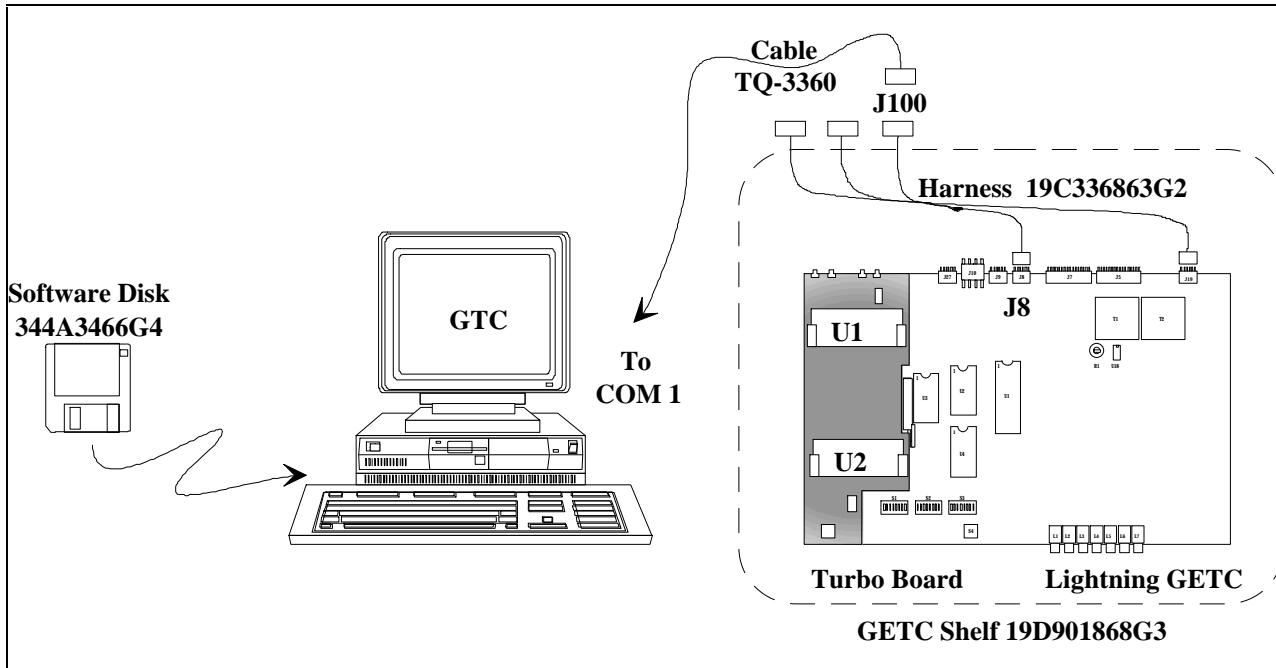

Figure 7 - Personality Programming
1. Connect the TQ-3360 programming cable from the PC's serial port connector (COM1/COM2) to the GETC Shelf connector J100 (see Figure 7). (A DB-25 to DB-9 adapter may be needed.)